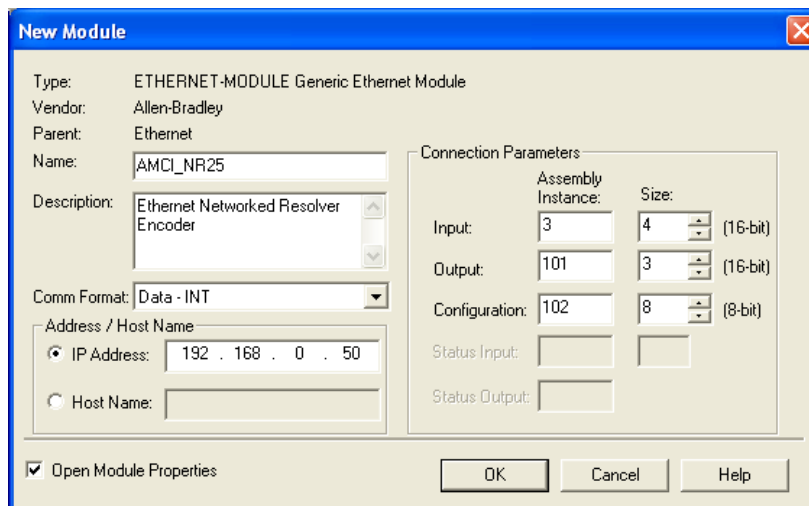

Figure 4.5 Sample NR25 Configuration Screen
- 3) Set the following parameters in the Module Properties window. All parameters not listed here are optional. Figure 4.5 shows a completed screen.